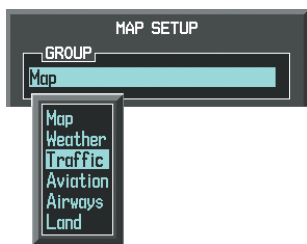

Figure 6-102 Navigation Map Page Setup Menu
- 4) Turn the small **FMS** Knob to select the Traffic Group and press the **ENT** Key (Figure 6-102).